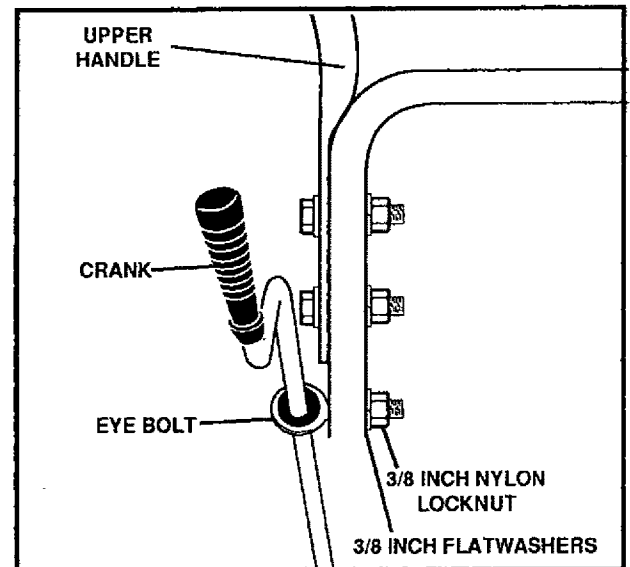

FIG. 4A
- Remove the 3/8" nylon locknut and flatwasher from the eye bolt assembly (on the chute crank assembly removed earlier) (See FIG. 4A).
- Install eye bolt through lower hole in the left hand side of the handle (See FIG. 4A).
- Install the 3/8" flatwasher and the 3/8" nylon locknut loosely on the eye bolt as shown in FIG. 4A